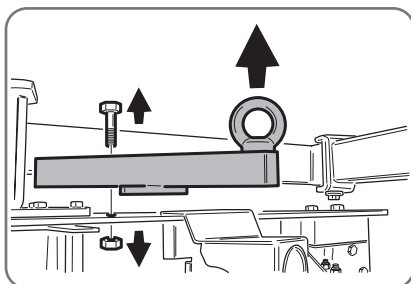

Fig. 3.3
- Remove the lifting bracket, unscrewing the screws and washers (Fig.3.3).